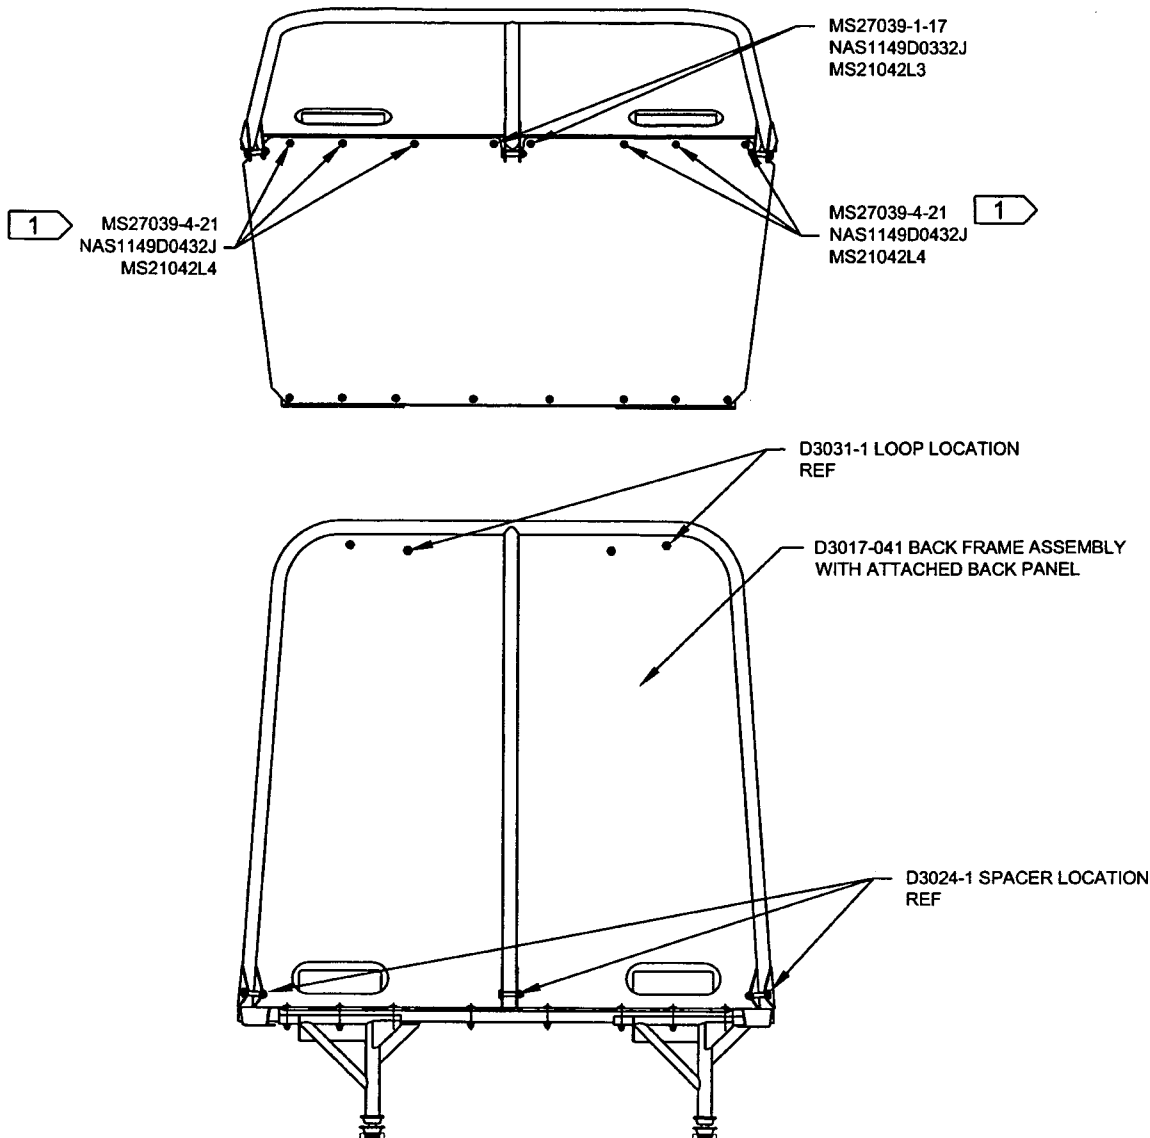

FIGURE 1
7. REINSTALL PROVIDED BACK FRAME ASSEMBLY WITH ATTACHED BACK PANEL USING THE HARDWARE PROVIDED PER FIGURE 1 (SHEET 2).